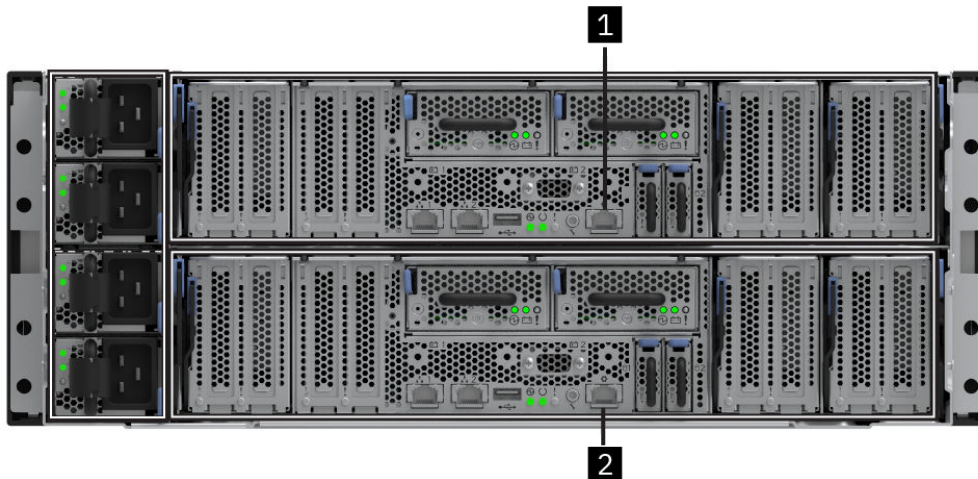

Figure 65. Technician port
4. Disconnect the personal computer from all networks. Connect an Ethernet cable between the port of the personal computer that is configured in step “2” on page 110 and the technician port in the left canister (1) that is shown in Figure 65 on page 110.